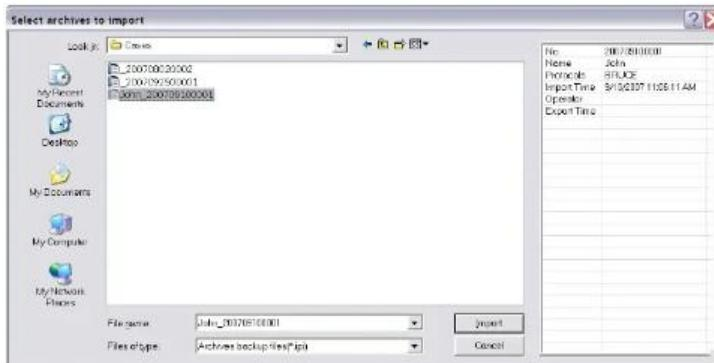

Fig.5-39 Import archive-select file
1. Click "Import" button, a dialog box for selecting the file to import pops up (as Fig.5-39), choose the file to import, then click button "Import".